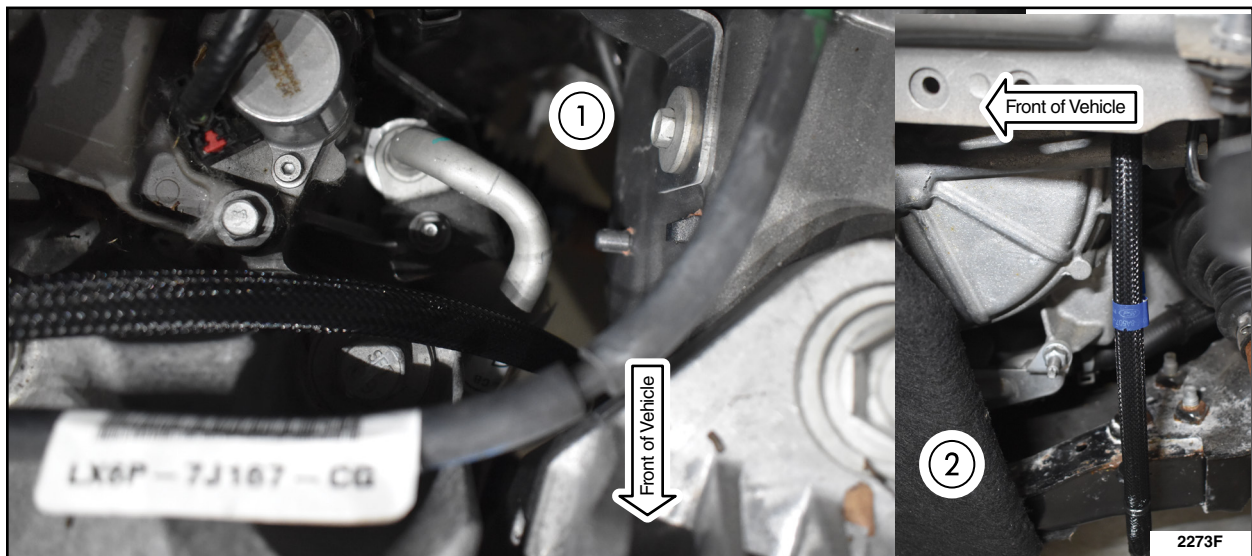

FIGURE 6
9. Feed the rubber hose end through the engine compartment and down into the wheel well. See Figure 6.